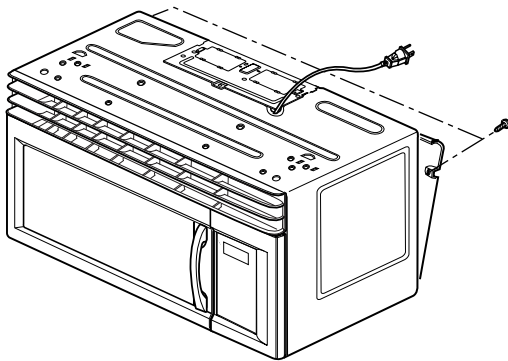

Figure 17
- (1) Remove the mounting plate by removing the two screws securing it to the back plate. (See Figure 17)